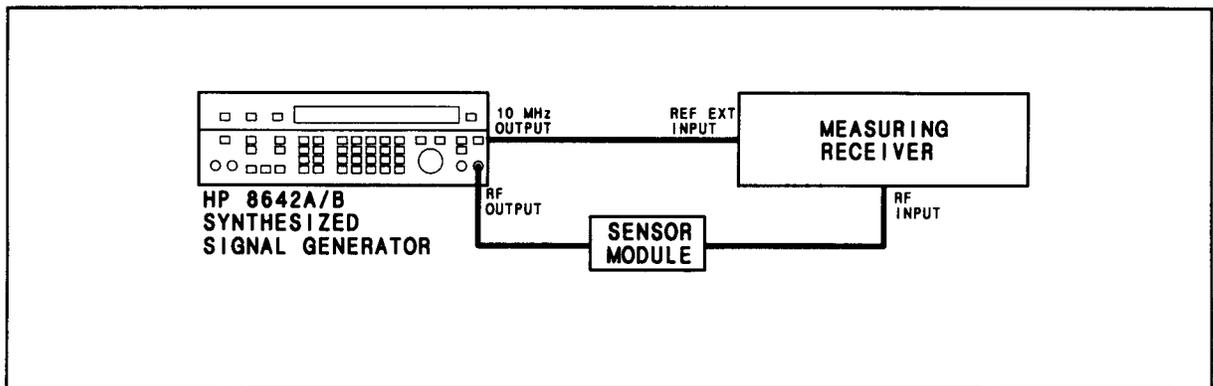

Figure 4-4. Residuals Test Setup
1. Connect the equipment as shown in Figure 4-4.